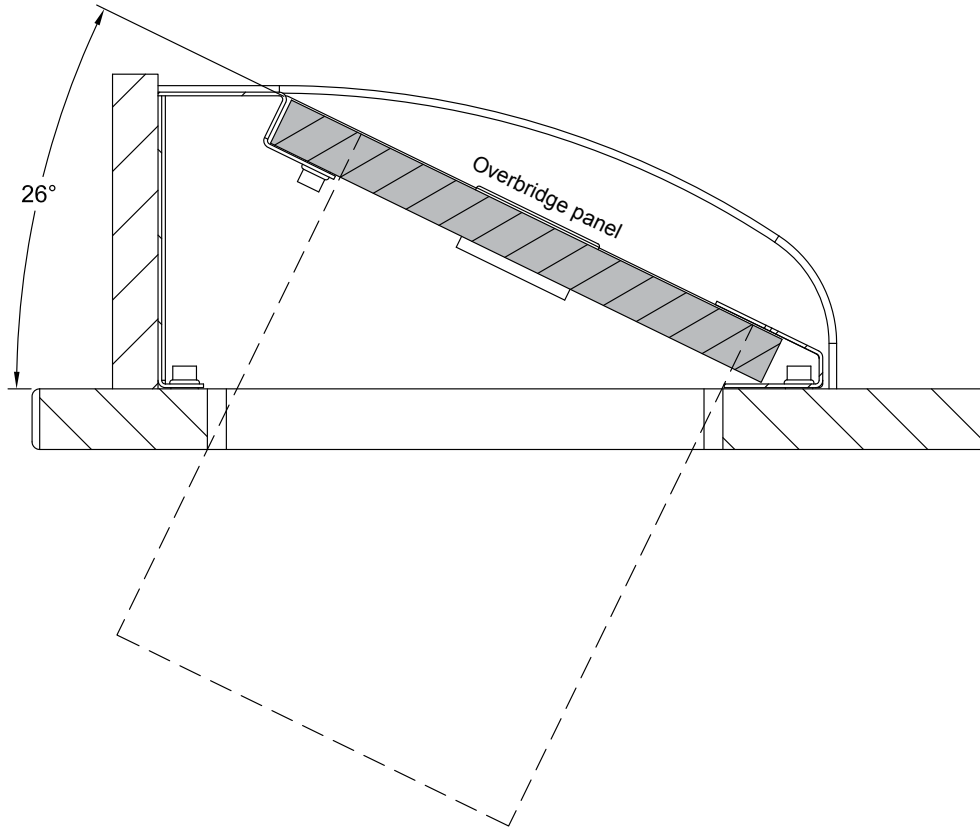

Figure 2
- Identify the depth of your device to verify it will not interfere with the worksurface or any other objects under the overbridge when the panel is attached. **Figure 2.**